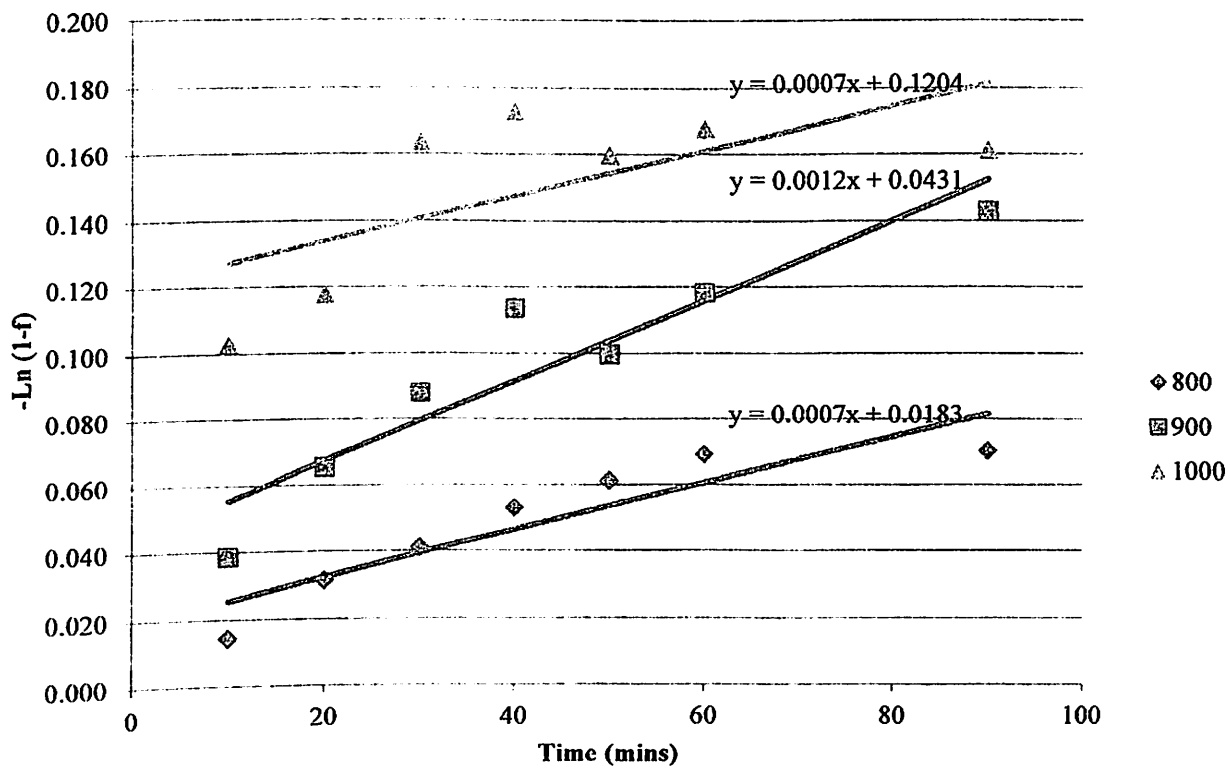

Figure 4.0 The first order kinetic model $[-\ln(1-f) = Kt]$ versus Temperature for Mumeng lime stone
- (d) A laboratory test on calcination of Mumeng lime stone (70 % CaCO₃) sample of particle size ±150 μm was performed in Kaindi laboratory. Data collected using the first order kinetic model [- ln (1 - f) = Kt] verses T was plotted in Figure 4.0.
Study the Plots in Figure 4.0 and answer the following questions: